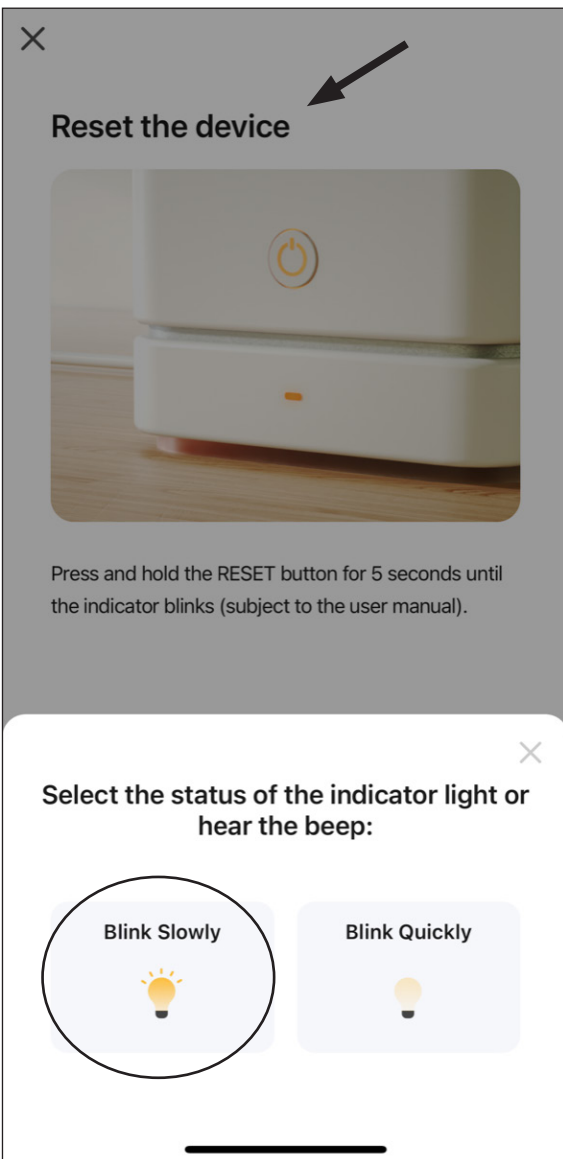
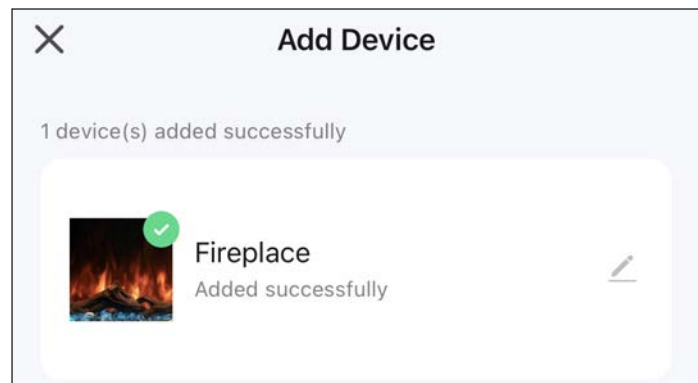

Figure 21: Fireplace Pairing
Figure 22: Fireplace Successfully Paired
7. With the fireplace now in pairing mode select the **Blink Slowly** option on the **Reset the Device** screen in the app (see figure 21). The app will begin pairing to the fireplace on a timing screen and automatically finish once pairing is successful (see figure 22).